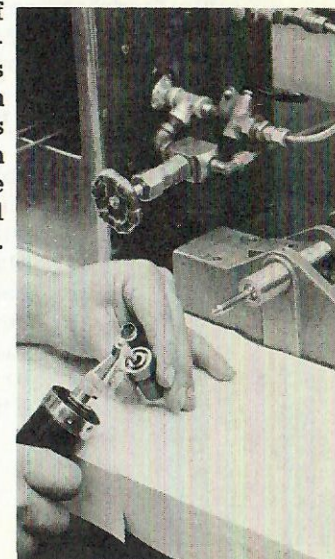

FIG. 82-1
2. Examine seat in nozzle body with a light and magnifying glass, Fig. 82-1, to determine whether it is pitted, grooved or pounded as the result of many operating hours. Should the seat be other than in good condition, it must be re-finished by the use of a cast iron tipped lapping arbor. Arbors are supplied four in a set. Each arbor is slightly different in diameter. Select the largest one which will enter the nozzle body.
3. Insert selected arbor in lapping machine, Fig. 82-1. Start machine and observe whether arbor runs "true". Do not attempt to lap with an arbor that wobbles.